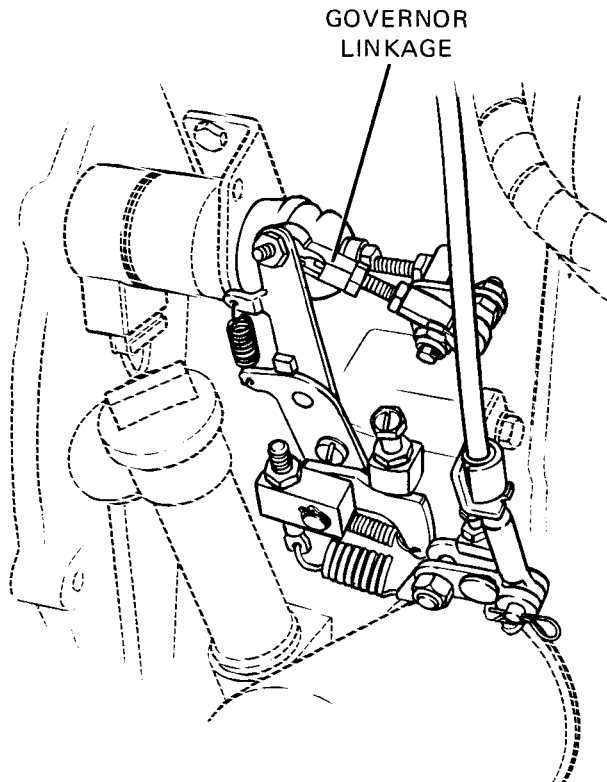

Figure 3-2 Governor Linkage.
Step 4. Inspect governor linkage for obstructions or binding (see Figure 3-2) .